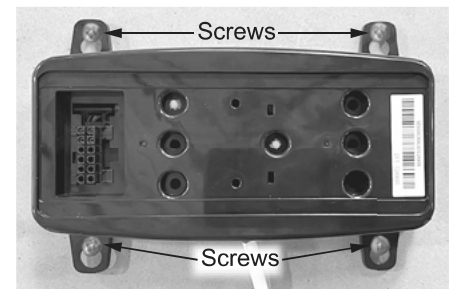

Figure 7 - Securing the mounting bracket to the wall
- 18** Secure the Wi-Fi mounting bracket to the wall using the four (4) provided screws and wall anchors. Reference Figure 7 for the orientation of the mounting bracket when mounted.